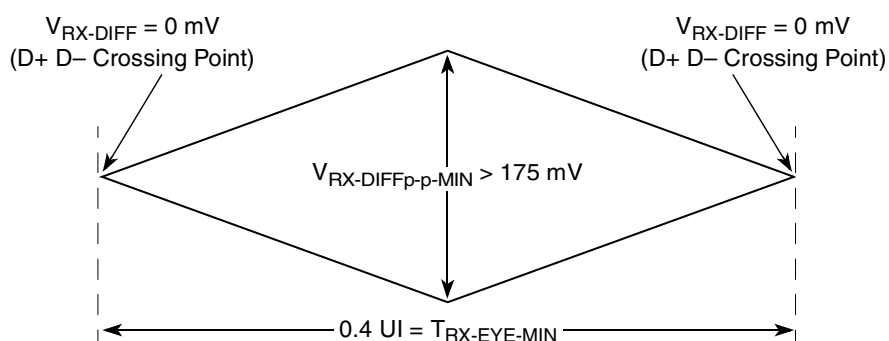
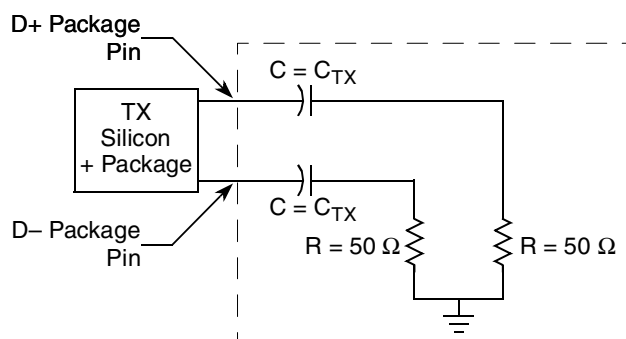

Figure 49. Minimum Receiver Eye Timing and Voltage Compliance Specification
Figure 50. Compliance Test/Measurement Load
2. Specified at the measurement point into a timing and voltage compliance test load as shown in Figure 50 and measured over any 250 consecutive TX UIs. (Also refer to the transmitter compliance eye diagram shown in Figure 48.)
4. The transmitter input impedance shall result in a differential return loss greater than or equal to 12 dB and a common mode return loss greater than or equal to 6 dB over a frequency range of 50 MHz to 1.25 GHz. This input impedance requirement applies to all valid input levels. The reference impedance for return loss measurements is 50  $\Omega$  to ground for both the D+ and D– line (that is, as measured by a vector network analyzer with 50- $\Omega$  probes—see Figure 50). Note that the series capacitors  $C_{TX}$  is optional for the return loss measurement.
5. Measured between 20%–80% at transmitter package pins into a test load as shown in Figure 50 for both  $V_{TX-D+}$  and  $V_{TX-D-}$ .
The TX eye diagram in Figure 48 is specified using the passive compliance/test measurement load (see Figure 50) in place of any real PCI Express interconnect +RX component.
2. Specified at the measurement point and measured over any 250 consecutive UIs. The test load in Figure 50 should be used as the RX device when taking measurements (also refer to the receiver compliance eye diagram shown in Figure 49). If the clocks to the RX and TX are not derived from the same reference clock, the TX UI recovered from 3500 consecutive UI must be used as a reference for the eye diagram.
4. The receiver input impedance shall result in a differential return loss greater than or equal to 15 dB with the D+ line biased to 300 mV and the D– line biased to –300 mV and a common mode return loss greater than or equal to 6 dB (no bias required) over a frequency range of 50 MHz to 1.25 GHz. This input impedance requirement applies to all valid input levels. The reference impedance for return loss measurements for is 50  $\Omega$  to ground for both the D+ and D– line (that is, as measured by a vector network analyzer with 50- $\Omega$  probes—see Figure 50). Note: that the series capacitors CTX is optional for the return loss measurement.
The RX eye diagram in Figure 49 is specified using the passive compliance/test measurement load (see Figure 50) in place of any real PCI Express RX component.
Note: In general, the minimum receiver eye diagram measured with the compliance/test measurement load (see Figure 50) will be larger than the minimum receiver eye diagram measured over a range of systems at the input receiver of any real PCI Express component. The degraded eye diagram at the input receiver is due to traces internal to the package as well as silicon parasitic characteristics which cause the real PCI Express component to vary in impedance from the compliance/test measurement load. The input receiver eye diagram is implementation specific and is not specified. RX component designer should provide additional margin to adequately compensate for the degraded minimum receiver eye diagram (shown in Figure 49) expected at the input receiver based on some adequate combination of system simulations and the return loss measured looking into the RX package and silicon. The RX eye diagram must be aligned in time using the jitter median to locate the center of the eye diagram.
The reference impedance for return loss measurements is 50. to ground for both the D+ and D– line (that is, as measured by a vector network analyzer with 50-Ω probes—see Figure 50). Note that the series capacitors, CTX, are optional for the return loss measurement.
The AC timing and voltage parameters must be verified at the measurement point, as specified within 0.2 inches of the package pins, into a test/measurement load shown in Figure 50.